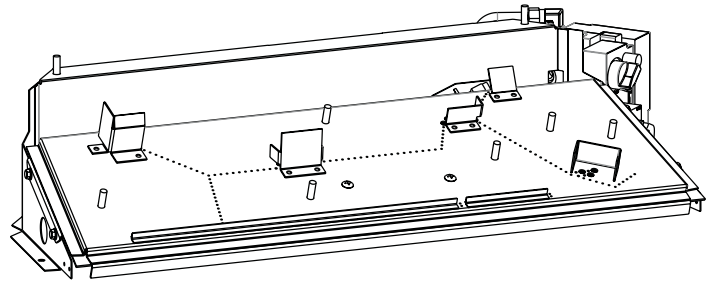

Figure 10
## Assembly Procedure: (Figures 10 and 11)
2. An anchor hole is provided in the two bottom side burner support. After centering the burner correctly, mark the hole positions on the fireplace/firebox floor. Drill two (2) 5/32" diameter holes approximately 1-1/2" deep for masonry screws or 1/8" hole for sheet metal screws.
3. Anchor the burner to the fireplace/firebox floor using the screws provided. Refer to Figure 10.